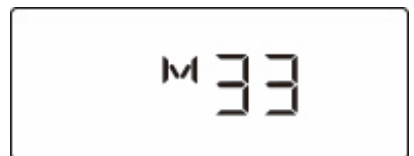

Figure 6-7
**Figure 6-7** m33 Stands for 33 minutes